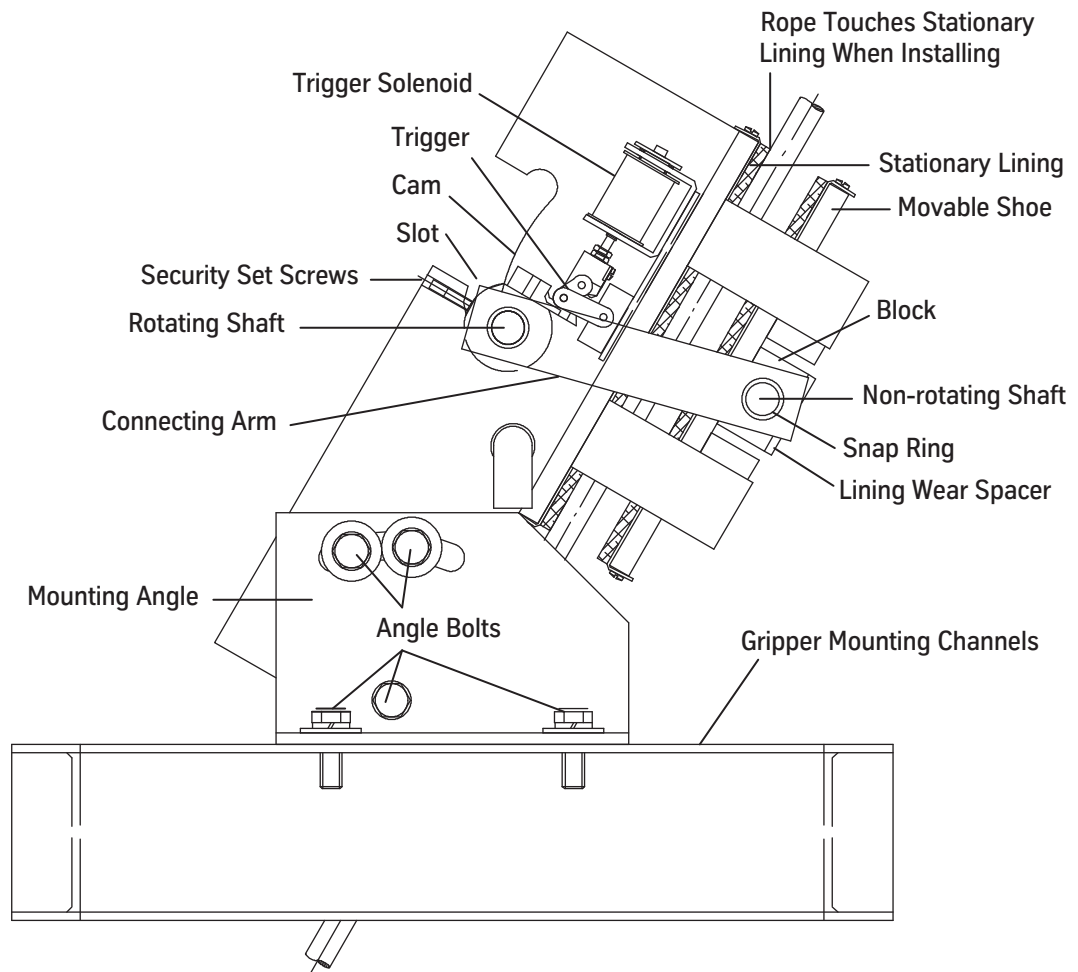

Figure 2 - Rope Gripper Detail
1. Ensure that the security set screws hold the rotating shaft in the Loaded position. See Figure 2.